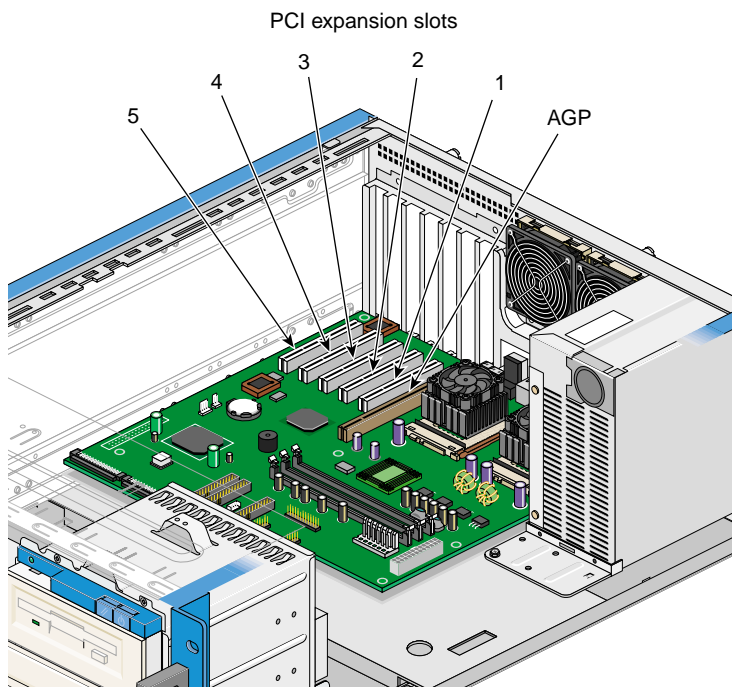

Figure 5-12 Expansion Slots
2. Locate an empty expansion slot on the motherboard; Figure 5-12 numbers the PCI slots.